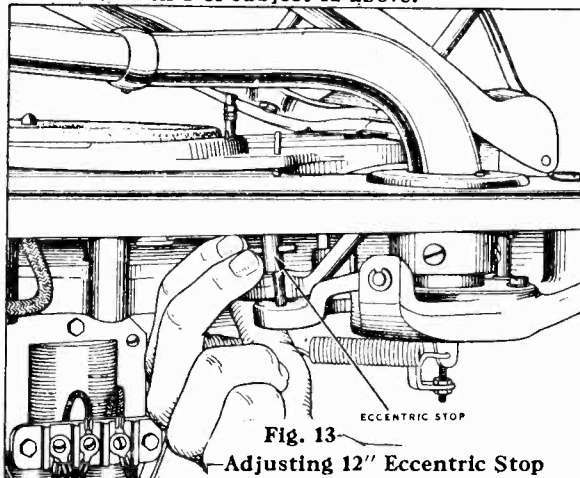

Fig. 13—Adjusting 12" Eccentric Stop
- With a small rod or nail turn the eccentric adjustment as shown in Fig. 13.
d. If the needle does not fall at the proper position on a 10" record after making the above adjustment, refer to Fig. 13.